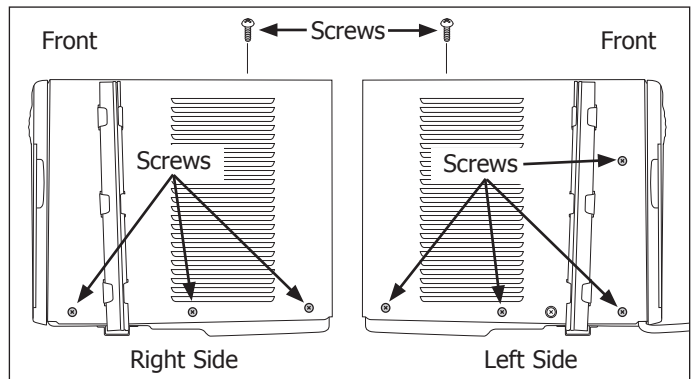

Figure 4-111.
3. Extract the screws from the cabinet wrapper/sleeve, then pull the left and right bottom edges away from the unit frame and lift the cabinet wrapper/sleeve off the unit. (See Figure 4-111)